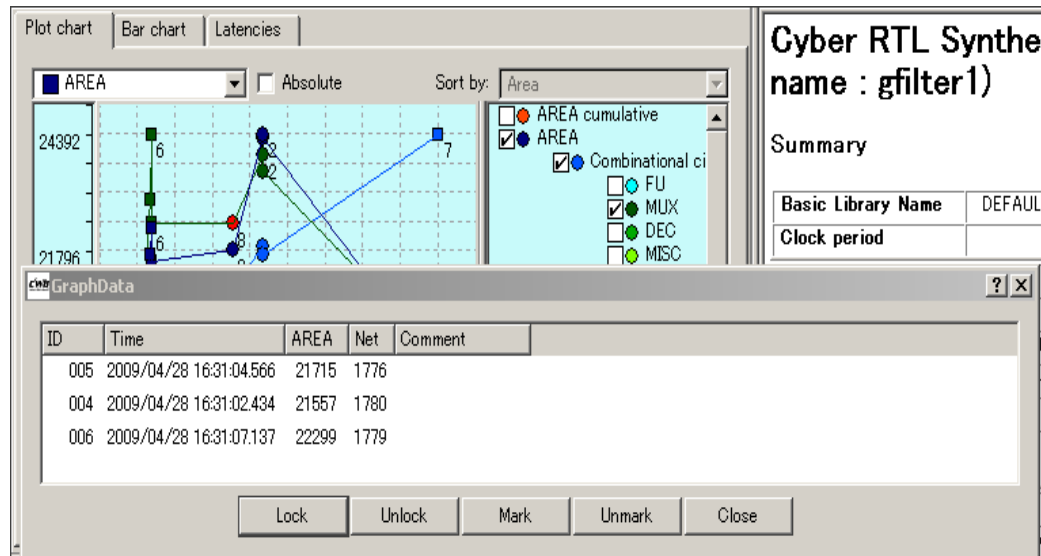
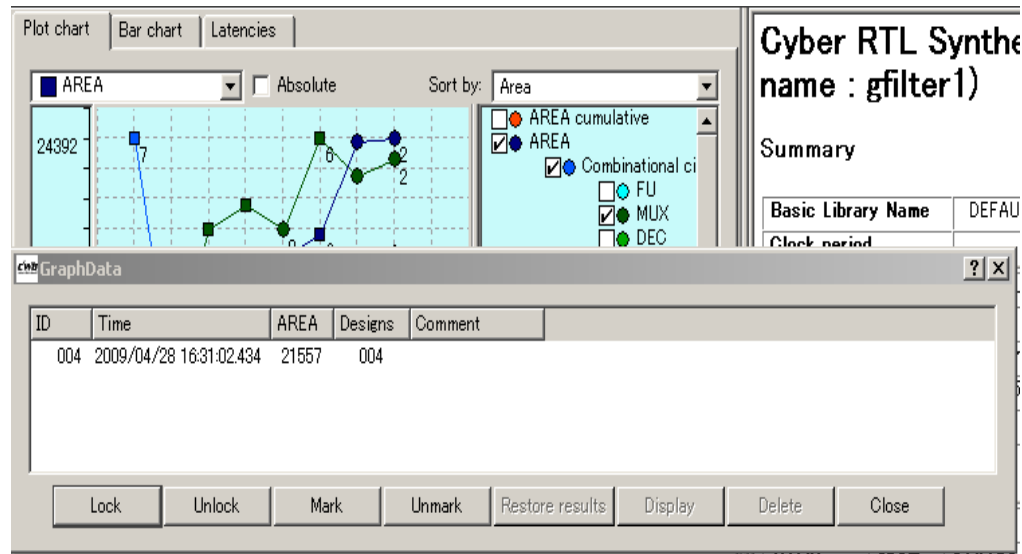

Figure 11-3 Synthesis result selection screen
Figure 11-4 Synthesis result selection screen (right click)
- In case two or more points are overlapping, or exist in very close proximity, then by clicking the point, a window to select the synthesis result will appear (Figure 11-3). By clicking the row inside the window, result of corresponding synthesis trial will be displayed in the form of error table and circuit quality display. The horizontal axis details are as follows. Please refer the following points for operations that can be performed in this window.
- By right clicking the point plotted in graph, a window to select synthesis result will appear (Figure 11-4). Horizontal axis details are same as Figure 11-3.